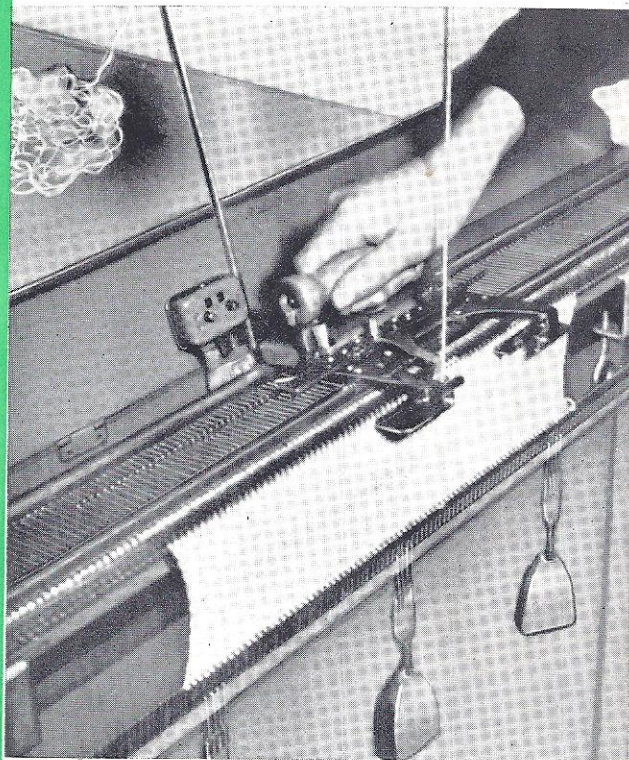

Fig. 8
4. The yarn will be caught alternately by the Latch Needles and Garment Holder through the above-noted operations. Slide the Carriage Assembly until all the pulled-out needles can catch the yarn, and take off slowly the piano wire from the Garment Holder Base. Taking care not to drop the yarn from the Latch Needle, pull downward the Garment Holders, firstly the opposite side and secondly the same side of the Carriage Assembly. Finally hang two or three Raked Plumbs as seen in Fig. 8.